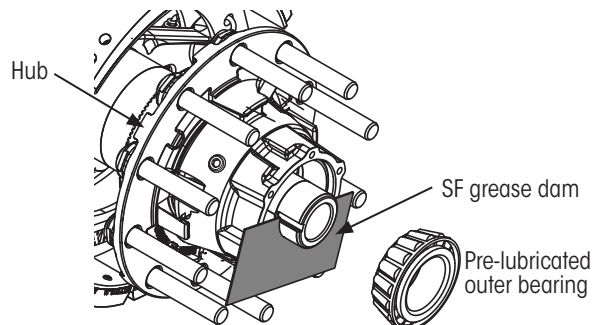

Figure 9: SF grease dam application
3. With the hub supported in position as shown in Figure 9, **place and hold** the SF grease dam so it covers the lower half the hub opening.